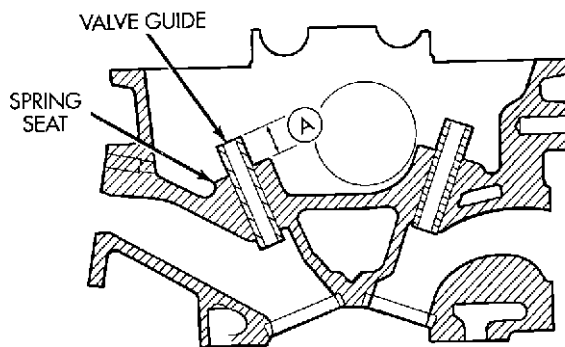

Fig. 93 Valve Guide Height
(3) Check valve guide height (Fig. 93).